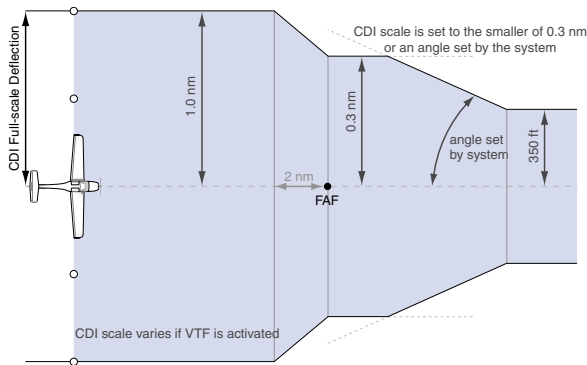

Figure 2-26 Typical LNAV and LNAV+V Approach CDI Scaling
- During **approach**, the CDI scale ramps down even further (see Figures 2-26 and 2-27). This transition normally occurs within 2.0 nm of the final approach fix (FAF). The CDI switches to approach scaling automatically once the approach procedure is activated or if Vector-to-Final (VTF) is selected.